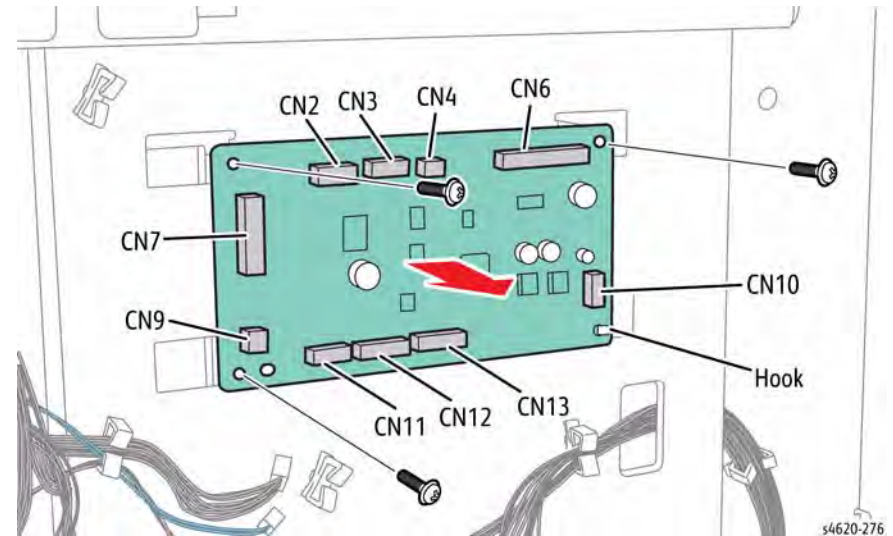

Figure 1 Remove the HCF Control Board
3. Disconnect 8 connections and remove 3 screws (metal) that secure the board, Figure 1.